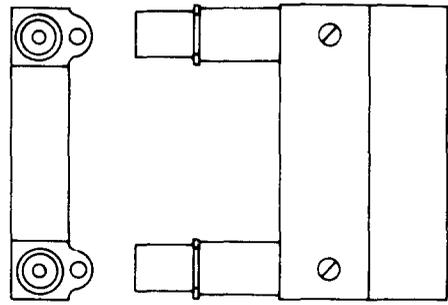

Fig. 3—552B Jack
**2.03 552B:** This twin coaxial-type jack (Fig. 3) has coaxially arranged inner and outer contacts. The outer contacts are connected together and jack construction permits strapping of inner contacts. A removable coverplate is furnished to be used in covering an unused cable entrance hole. One end of the 552B jack is designed to be used with the 358A and similar-type plugs. The other end is designed for solderless shield connections to a 728A cable by means of a sleeve which is furnished as a loose part of the jack. The jack will withstand a voltage breakdown of 3000 volts ac. Mounting lugs on the two individual jacks may be positioned for mounting side-by-side, in the same direction, or extended back-to-back. The 552B jack is recommended to be used in place of the 552A jack and also with the L4 Coaxial System.